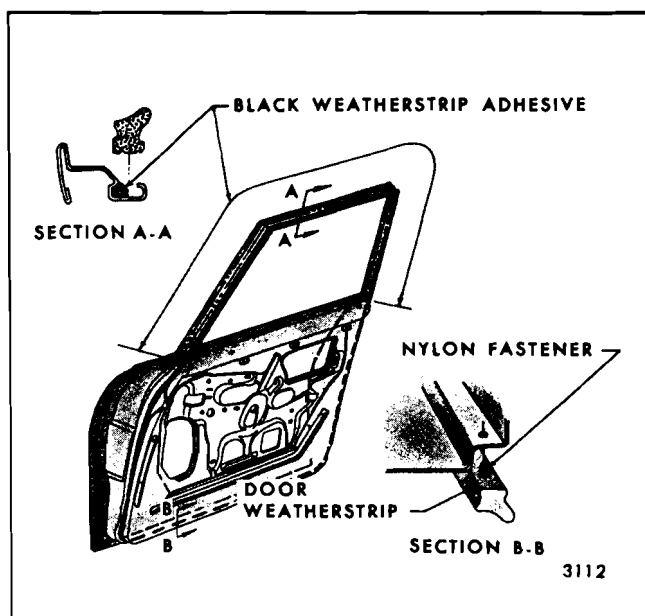
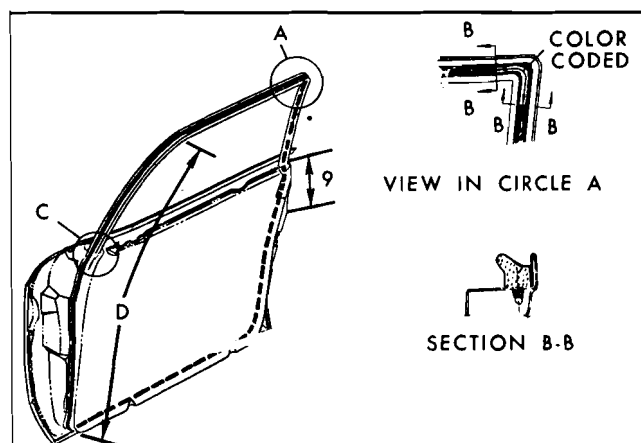

Fig. 6-2—Door Weatherstrip - "A & X" Closed Styles
Fig. 6-4—Door Weatherstrip - "B" Closed Styles
On "B" Body Sedan Styles, nylon fasteners are used around the entire perimeter of the door. On "A & X" Closed Styles, nylon fasteners are used below the beltline only. Weatherstrip adhesive retains the weatherstrip around the door upper frame above the beltline (Fig. 6-2).
2. On sedan styles, use a flat-bladed tool to break cement bond between door and weatherstrip. On "B" Body Sedan Styles, weatherstrip adhesive is used for a distance of 9" on door lock pillar and the entire length of the front door hinge pillar ("D", Fig. 6-4). On "A & X" sedan styles, weatherstrip is retained by weatherstrip adhesive completely around door upper frame (Fig. 6-2).
3. On sedan styles, apply black weatherstrip adhesive to door surface contacted by weatherstrip (Circle "C", Fig. 6-4) to effect a positive seal at point where door upper frame enters door.
- a. On front doors, locate weatherstrip from rear upper corner which is color-coded (Fig. 6-4).
7. On "A & X" Sedan Styles, apply a bead of black weatherstrip adhesive to gutter of door upper frame as shown in section "A-A", Fig. 6-2, then, install weatherstrip.
- a. For 5" around rear upper corner of front door upper frame (Circle "A", Fig. 6-4), 9" down door lock pillar starting at beltline and down entire hinge pillar facing indicated "D".